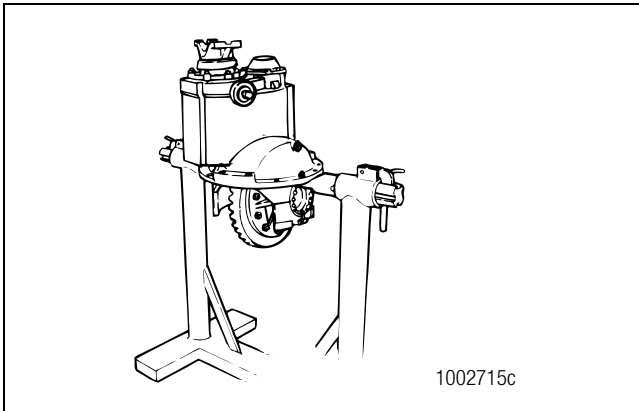

Figure 3.11
8. Use a lifting tool to lift the differential carrier by the input yoke or flange and place the assembly in a repair stand. Do not lift by hand. Refer to Section 10 to make a carrier repair stand. Figure 3.11.